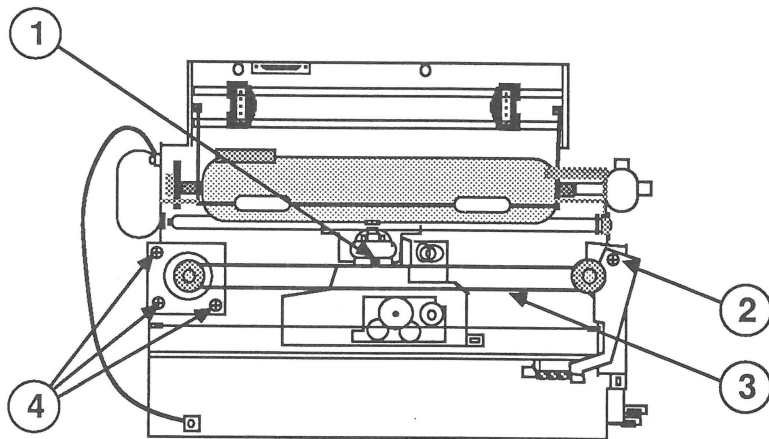

FIGURE 28
3. Remove the screw that holds the black plastic carrier belt guide (Figure 28, #1). Some guides are glued to the belt: *Do not pry the guide off the assembly unless you are replacing the carrier belt.*
4. Loosen the carrier belt adjustment screw (Figure 28, #2).
5. Gently push in on the metal plate under the screw, and remove the drive belt from the right carrier motor pulley. Lift the carrier belt from the machine (Figure 28, #3).
6. Disconnect the three screws holding the carrier motor in place (Figure 28, #4). The motor will drop out.
1. Position the carrier motor with the connector and wires toward the rear of the machine, and replace the three screws (Figure 28, #4).
2. Replace the carrier belt on the left pulley and align it (Figure 28, #3). Push in on the metal plate of the carrier adjustment (Figure 28, #2), and replace the carrier belt on the right pulley.
3. Place the plastic carrier belt guide in position and replace the screw (Figure 28, #1).